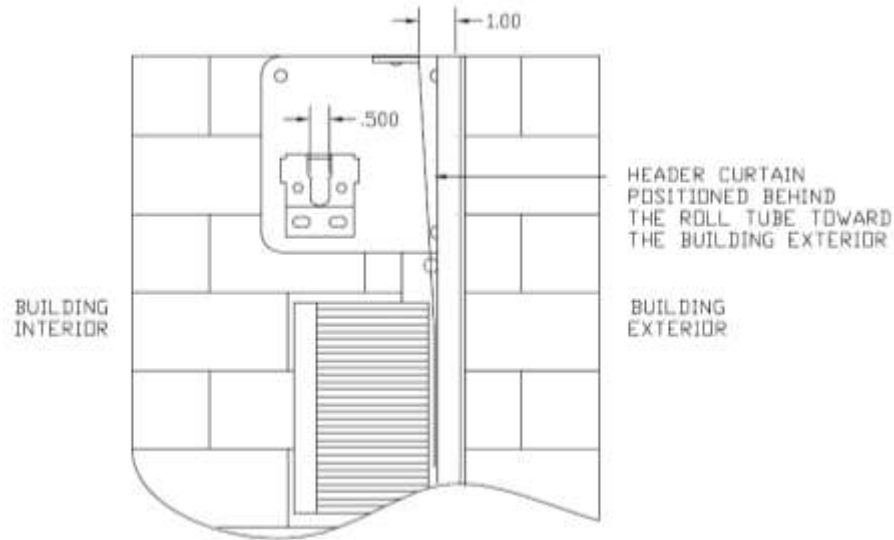

FIGURE 4
8. Mount the header curtain in the header with the aluminum clamping strip such that it just makes contact with the roll when the screen is in the closed position. NOTE: The Gateway Logo should face the building exterior and the curtain should hang over the roll outside the building. See **Figure 4** for exact location of the mounting strip.